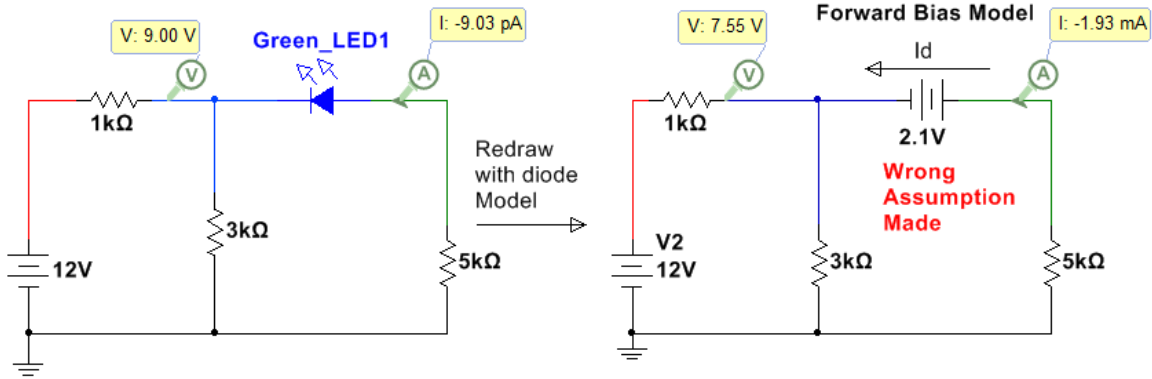

Figure 6.7: Circuit for Example 6.4 with the **wrong assumption made**.
- Solving this matrix yields $I_2 = 1.93 \text{ mA}$ (clockwise). $I_D = -I_2 = -1.93 \text{ mA}$ (This is verified in Multisim in Figure 6.7)
- **Note:** The probe values in the left circuit of Figure 6.7 with the green LED are way different because the wrong assumption was made.